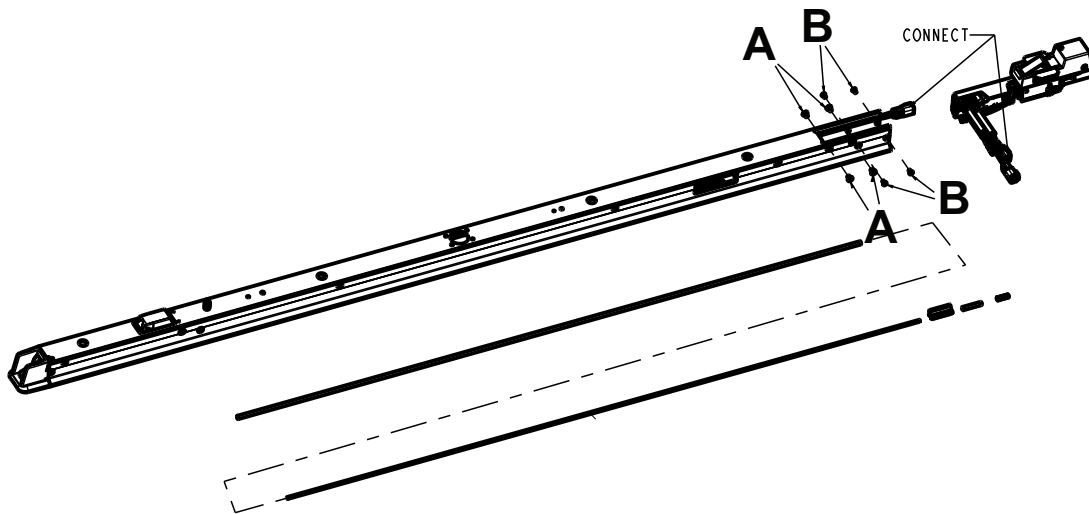

Figure 50 – Remove the anchor pawl assembly from the anchor
5. Using a 5/32" hex wrench, remove the four screws (A) (Figure 50).
6. Using two 1/8" hex wrenches, remove the four flat head cap screws (B) that secure the anchor pawl assembly to the anchor (Figure 50).